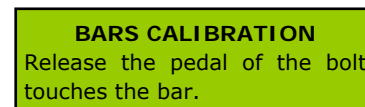

Figure 18
- Rotate forward until you detect that the bolt has arrived to the bar; in other words, observe the machine stops rotating in void. The information on Figure 18 will be then displayed.